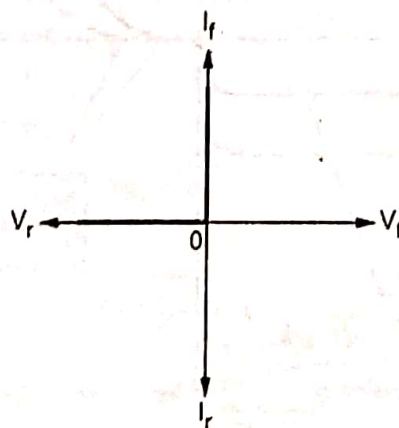

Fig. 5.1
- Characteristics of ideal diode are shown in the Fig. 5.1.